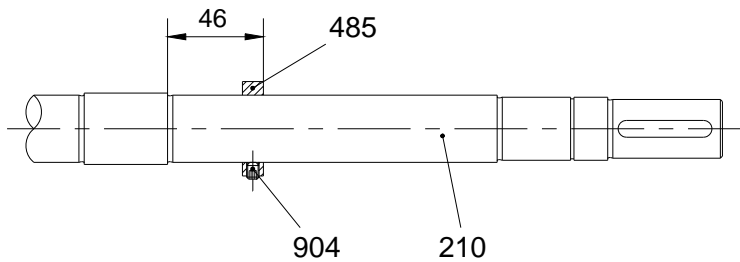

Fig. 20
- 1) Position on shaft VDMA 210 the seal locating ring VDMA 485 at a distance of 46 mm from the shaft shoulder of shaft diameter 32 mm (see fig. 20) to the face of the ring on which the mechanical seal will rest.